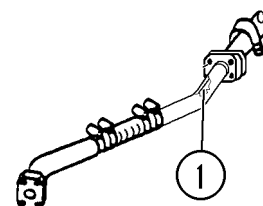

FIGURE 4-3A
4. Remove and clean Strainer (1, Figure 4-3A) from inlet to Oil Cooler (inside R.H. frame rail). Be sure to clean this strainer at every oil change and after any rear brake failure.